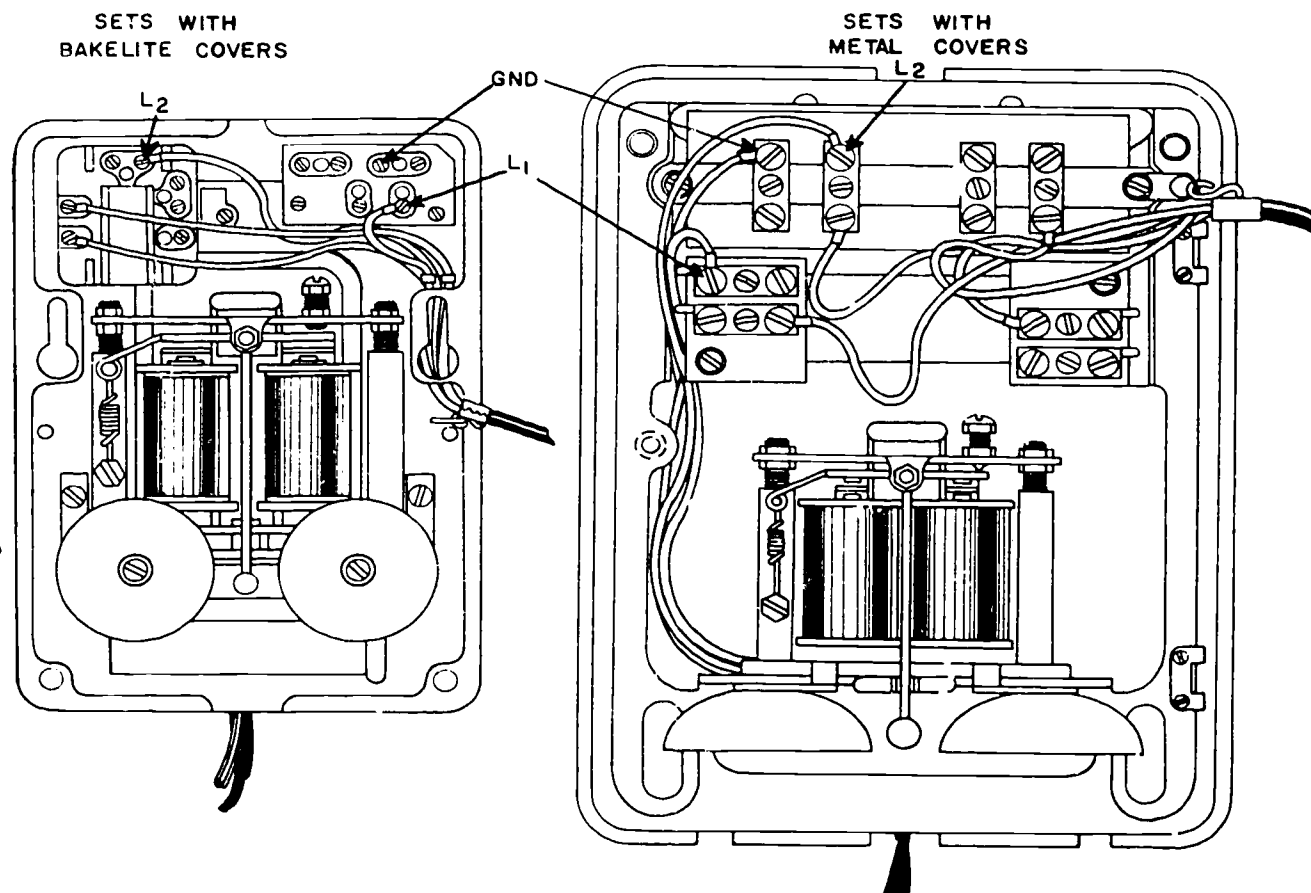

Figure 3-58. Example of subset wiring.
Subsets. Combined subsets are the easiest items to install because, in most cases, it is only necessary to connect the proper wires to the proper terminals. Wire fasteners are not required if you place the subset where no strain will be placed on the conductors, or if you conceal the wire as it comes to the subset. Remember, connect the cord connections and the inside wire conductors together at the terminals of a connecting block mounted on the desk, wall, etc. Connect each telephone to the line in accordance with the specific wiring diagram instructions furnished by the manufacturer. Figure 3-58 shows terminations of the hand set cord and the line within two subsets.
6. Using text figure 3-58, to what devices of the illustrated telephones are the line conductors attached?